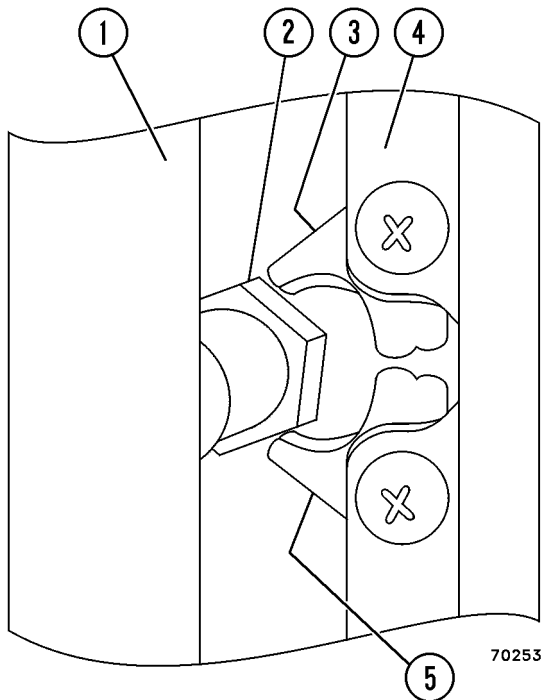

FIGURE 2-4. DOOR JAMB BOLT ADJUSTMENT
- If the door springs back when trying to close it, striker bolt (2, Figure 2-4) has probably loosened and slipped down from where the catch can engage with the bolt.
1. Open the door and close both latches (3) and (5) on the catch until they are both fully closed.